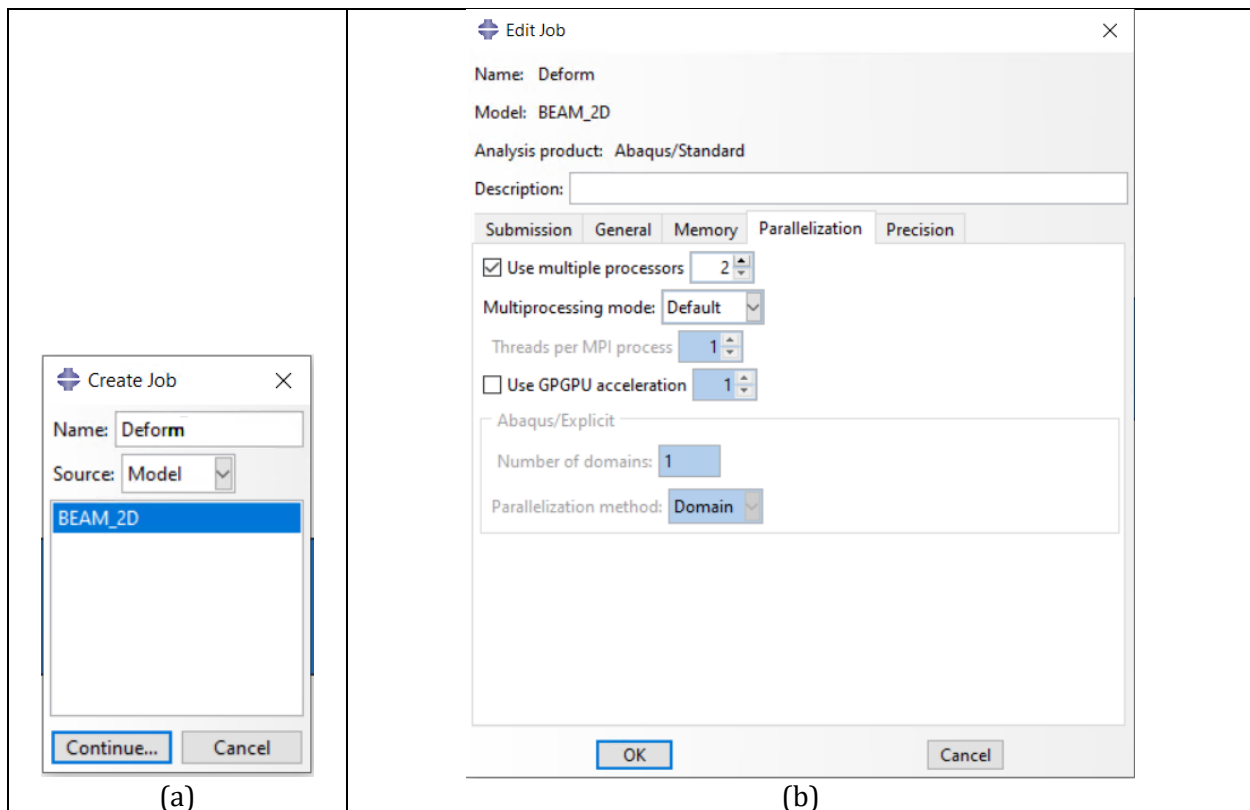

Figure 2-27 – (a) The Create Job dialog box and (b) the Edit Job dialog box.
Abaqus/CAE switches to the Job module, and the **Create Job** dialog box appears, see Figure 2-27(a).
3. In the **Parallelization** tab, Figure 2-27(b), check the **Use multiple processors** in order to use more than one CPU, allowing faster simulations. Click **OK** to accept the default job settings.